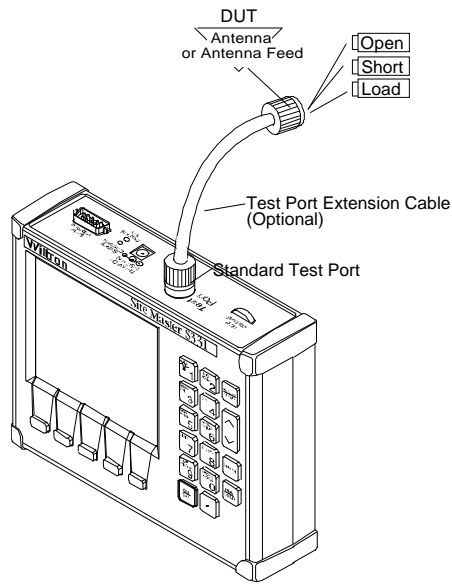

Figure 2-9. Measurement/Calibration Test Setup
“Connect LOAD, Press ENTER” instructions that appear in the message area. Connect the respective Open, Short, and Load component to the end of the Test Port Extension Cable (Figure 2-9) prior to pressing ENTER.
- Step 7.** Perform a measurement calibration, using the **START CAL** key. Select **CAL A** or **CAL B**. Follow the ensuing “Connect **OPEN**, Press **ENTER**,” “Connect **SHORT**, Press **ENTER**,” and “Connect **LOAD**, Press **ENTER**” instructions that appear in the message area. Connect the respective Open, Short, and Load component to the end of the Test Port Extension Cable (Figure 2-9, page 2-24) prior to pressing **ENTER**.